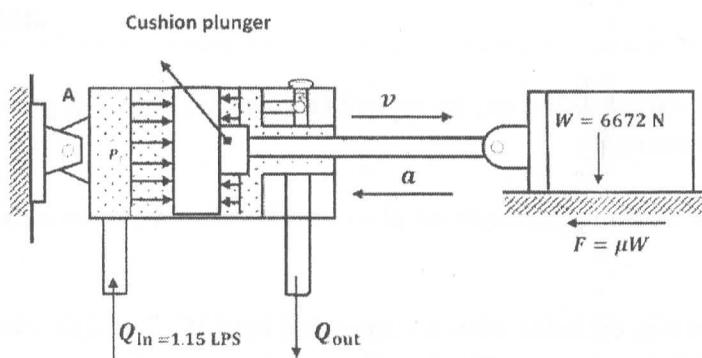

Fig.1 Cylinder with cushion device for question (1_3)
3. A pump delivers oil at a rate of 1.15L/s into the blank end of the 76.2mm diameter hydraulic cylinder. The piston contains a 25.4mm diameter cushion plunger that is 19.05mm long. The cylinder drives a 6672N weight which slides on a flat horizontal surface having a coefficient of friction (μ) equal to 0.12, see Fig. 1. The pressure relief valve setting equals 51.7bar. Find the maximum pressure developed by the cushion.
3. The system shown in Fig. 1 has a hydraulic cylinder with a suspended load W . The cylinder piston and rod diameters are 50.8mm and 25.4mm, respectively. The pressure-relief valve setting is 5150kPa. Determine the pressure P_2 for a constant cylinder extension speed: